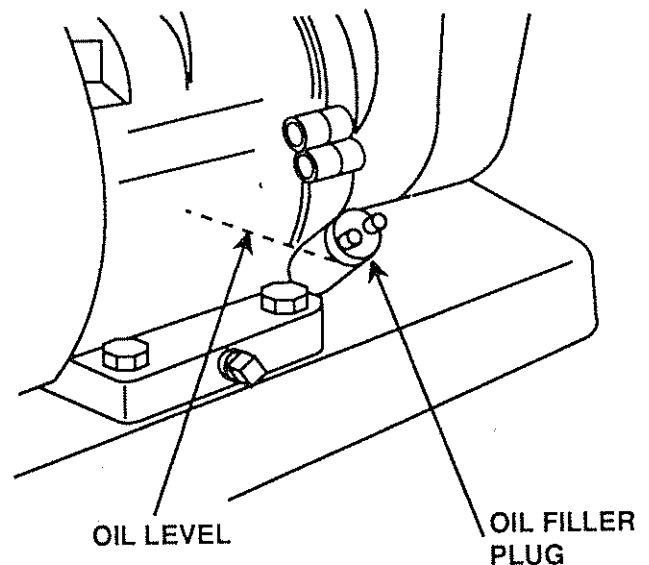

FIGURE 11
- a. With Engine level, remove Engine Oil Filler Plug (Fig. 11).
- b. Engine oil should be to point of almost overflowing (Fig. 11). Engine oil capacity is about 1-1/4 pints (20 ounces).